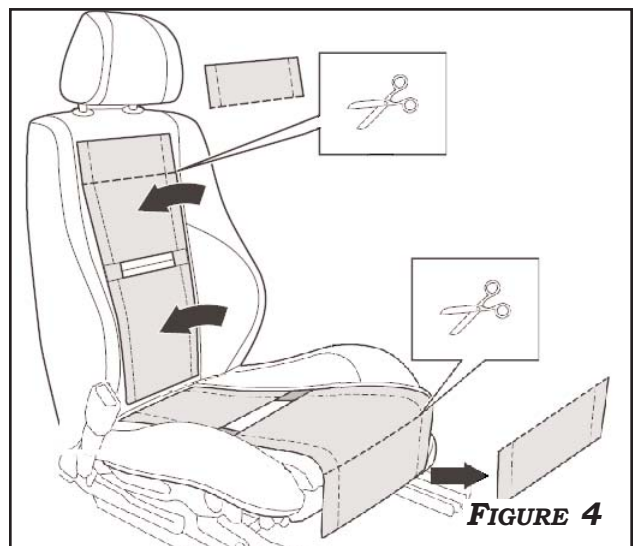

FIGURE 4
4. TRIM THE PADS AND DISCARD THE EXCESS MATERIAL. **FIGURE 4.**